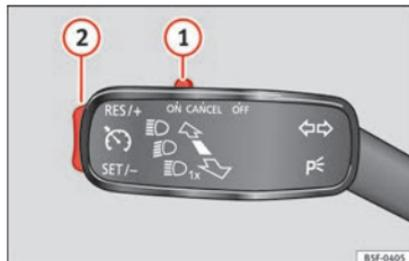

Fig. 32 See Fig. 3 for positioning
- Switching on the CCS: Move switch »» Fig. 32 ① to **ON**. The system is on. If no speed has been programmed, the system will not control it.
- Activating the CCS: Press button »» Fig. 32 ② in the **SET/-** area. The current speed is memorised and controlled.
- Temporarily switching off the CCS: Move switch »» Fig. 32 ① to **CANCEL** or push the brake. The cruise control system is switched off temporarily.
- Reactivating the CCS: Press button »» Fig. 32 ② in **RES/+**. The memorised speed is saved and controlled again.
- Increasing stored speed during CCS regulation: press button ② in **RES/+**. The vehicle accelerates until the new stored speed.
- Reducing stored speed during CCS regulation: press button ② in **SET/-** to lower the speed by 1 km/h (1 mph). Speed is reduced until reaching the new stored speed.
- Switching off the CCS: Move switch »» Fig. 32 ① to **OFF**. The system is disconnected and the memorised speed is deleted.